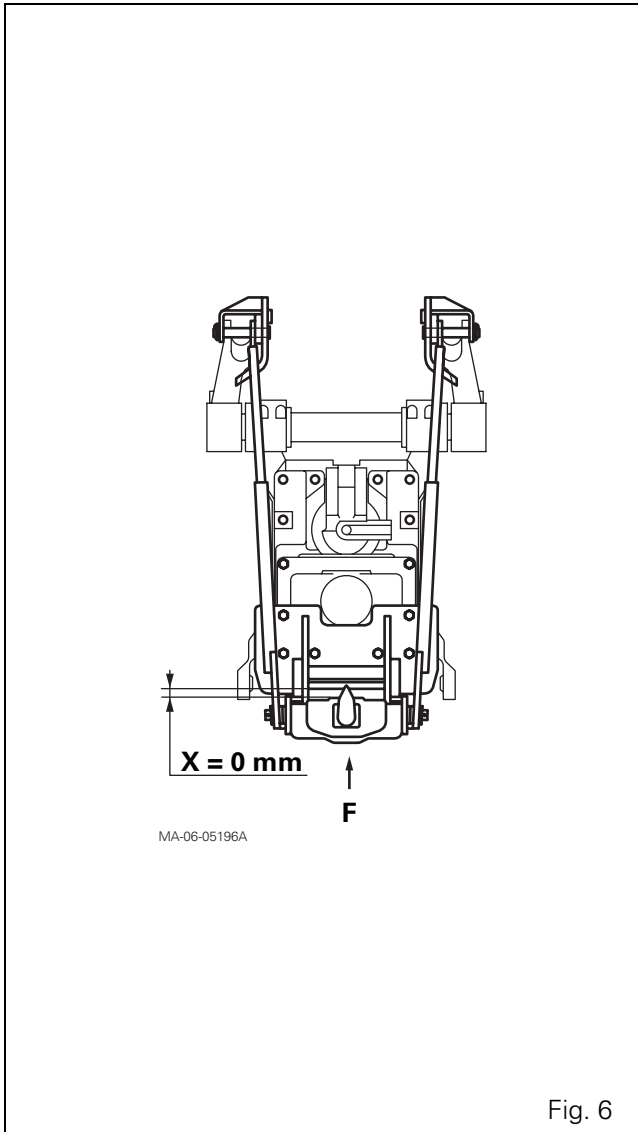
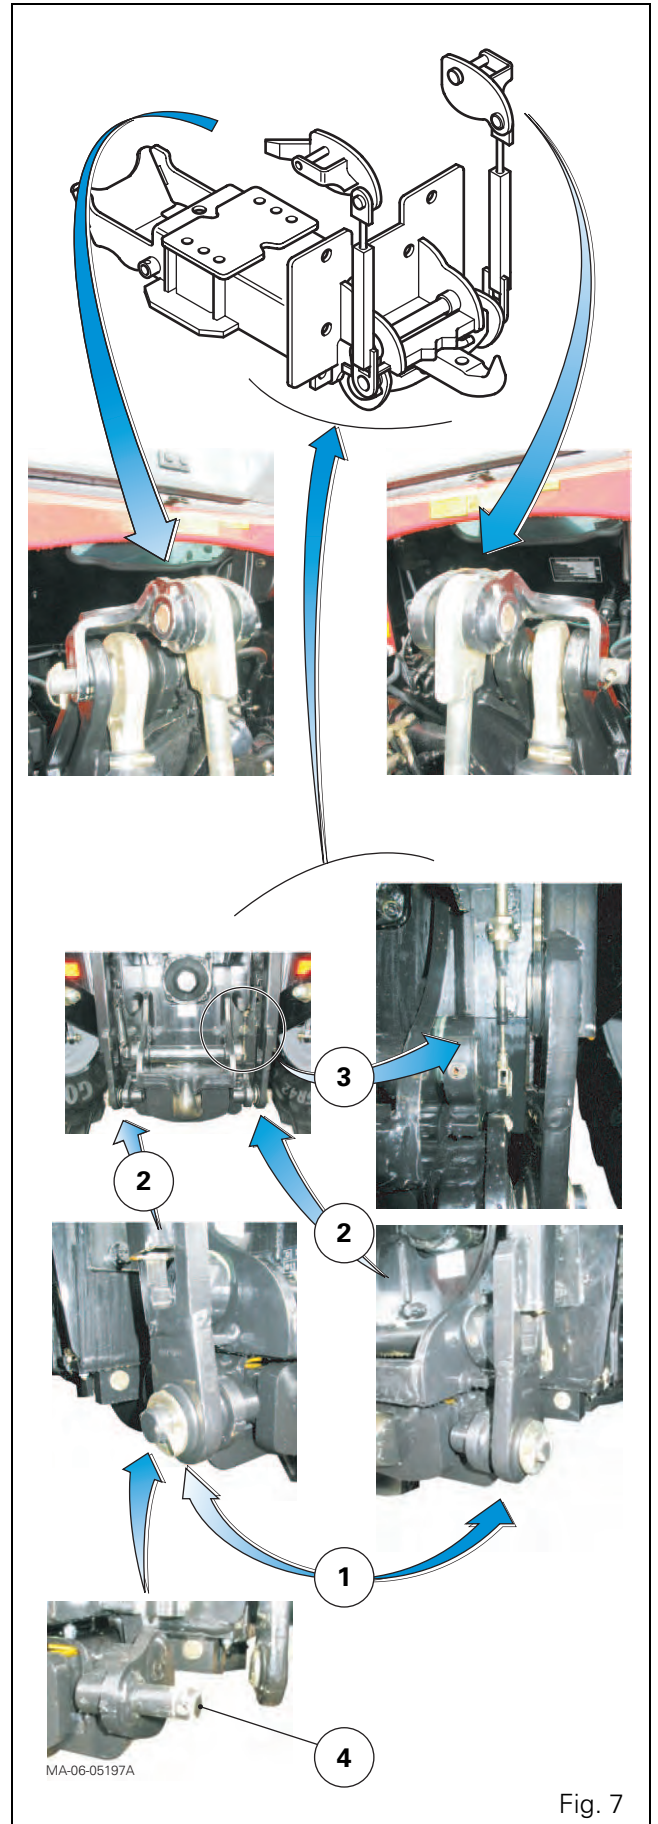

Fig. 6
Fig. 7
1. Disconnect (Fig. 7):
- the tie-rod clevises (2) (right and left-hand);
- the control cable (3) connected to the support.
4. Using a trolley jack, compress the mobile auto-hitch support moderately along the F axis (Fig. 6) until the top of the mobile support touches the top of the fixed support (X = 0 mm)
5. Shorten each tie-rod as much as possible by adjusting the clevises (2) (Fig. 7): the clevises must engage freely on the pins (4) of the mobile support.
6. Fit new pins (1) (Fig. 7).
8. Reconnect the control cable (3) (Fig. 7).